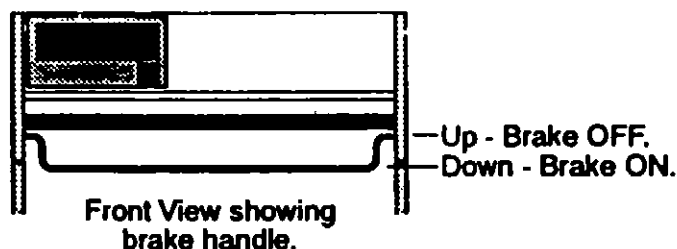

Figure 6-1. Release the Parking Brake
1. Release the parking brake, using both hands to draw the parking brake release lever up toward the handle (see Figure 6-1).